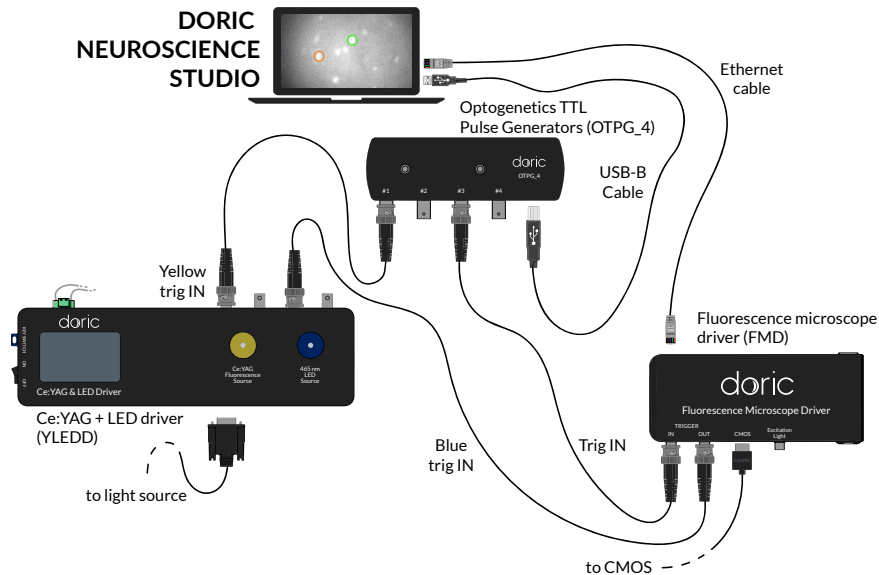

Figure 3.16: GCaMP6 + NpHR3.0 configuration
- The **eTOSFM GCaMP6 + NpHR3.0** configuration (Section 3.7.4, Fig. 3.16) allows the imagery of **GCaMP6** fluorescence with **NpHR3.0** activation.
For the **GCaMP6 + NpHR3.0 configuration** (Fig. 3.16), the *Ce:YAG + LED optical head* is used as the light source. The LED light source is used for excitation, while the Ce:YAG light source is used for opsin activation.